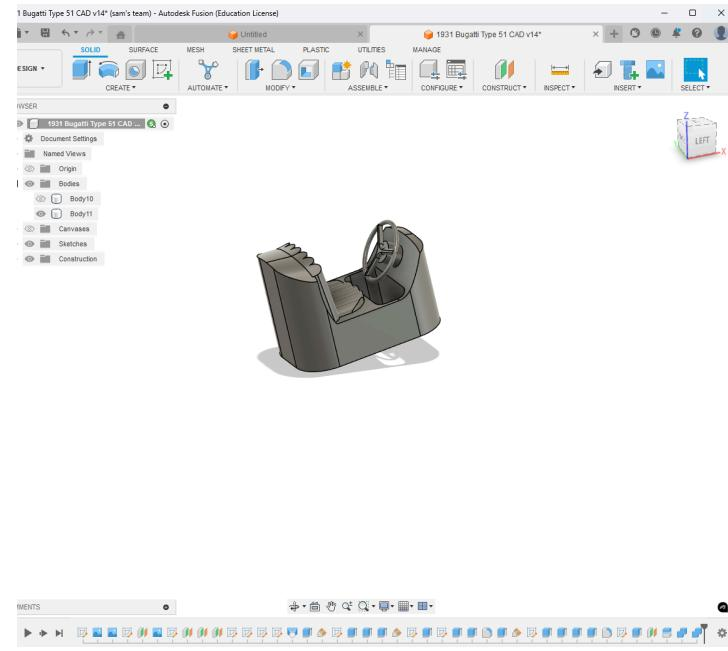

Fig. 22: Finished cockpit 'pod'
3. You can now toggle the cockpit pod for independent viewing, making it easier to isolate for 3D printing. Be sure to reunite the split fuselage using the combine feature so the car body remains a single, continuous piece rather than being divided by the cutting plane. See **Fig. 22** for reference.